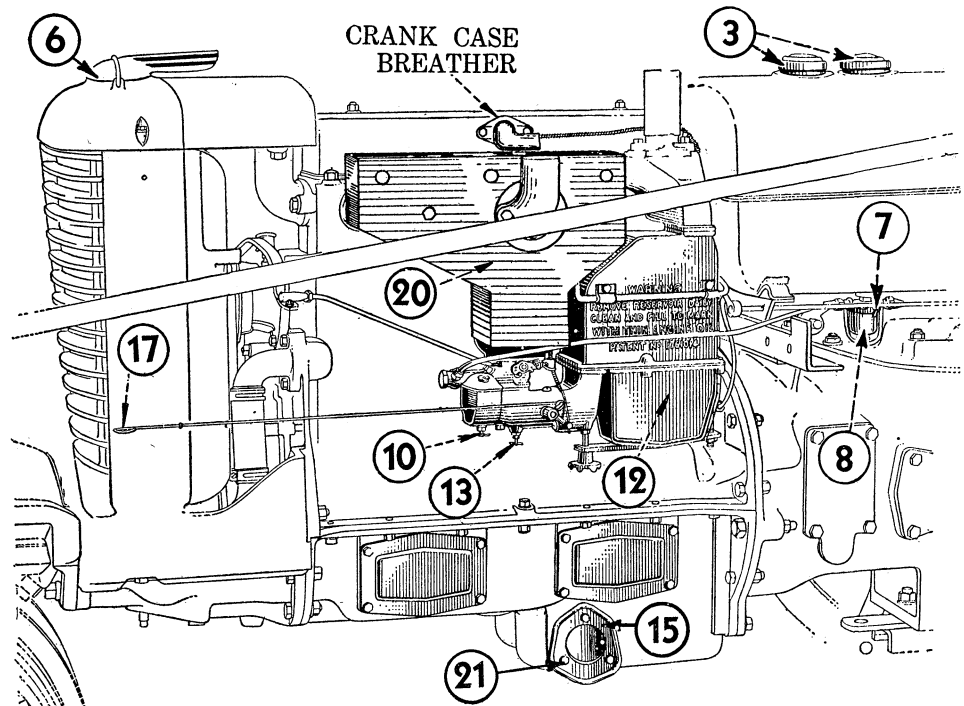

Fig. 4. L. H. Side of Case "DC" Tractor
3. Fig. 4. Make sure that air vent holes in caps of fuel tanks are open.